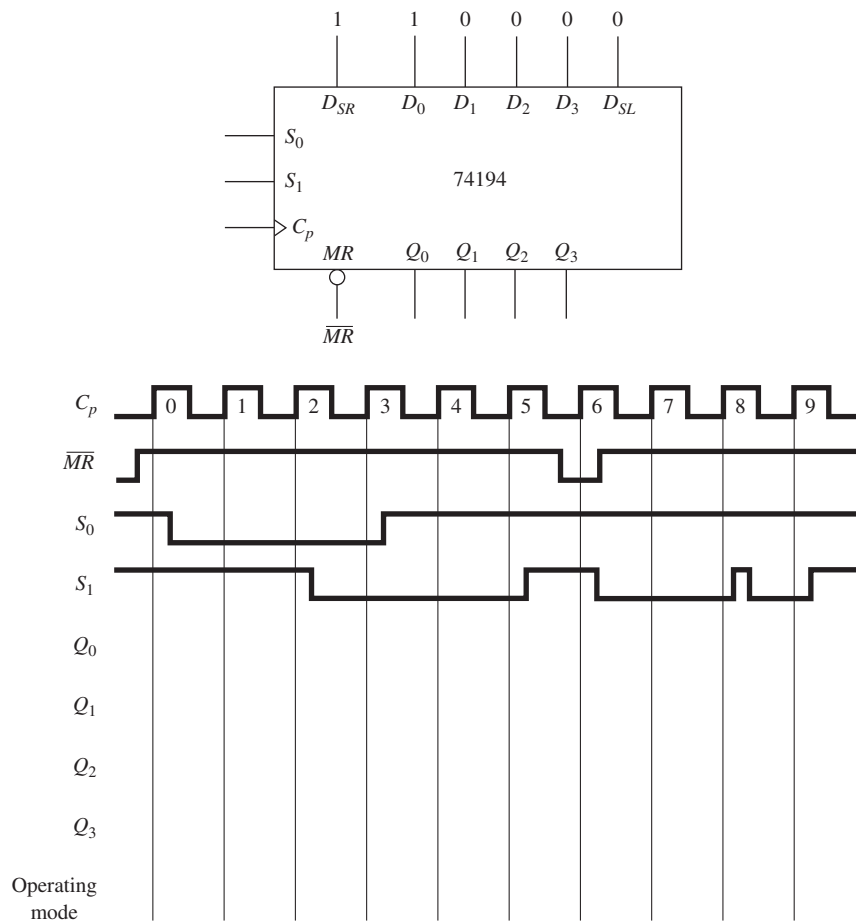

Figure P18
18. Sketch the output waveforms at Q_0 to Q_3 for the 74194 circuit shown in Figure P18. Also, list the operating mode at each positive clock edge.